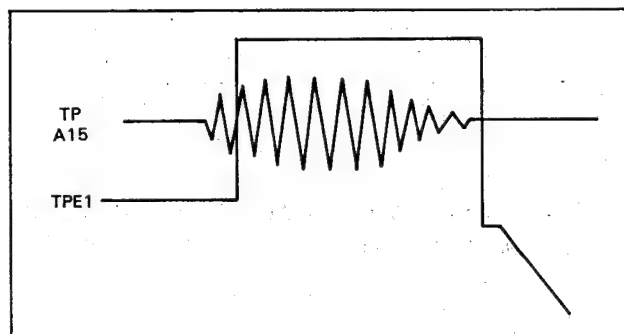

Fig. 22
6. Adjust R5444 (Burst sampling for pulse cross) so that the false burst for **TPA15** enter within clamp pulse of **TPE1** as shown in Fig. 22.